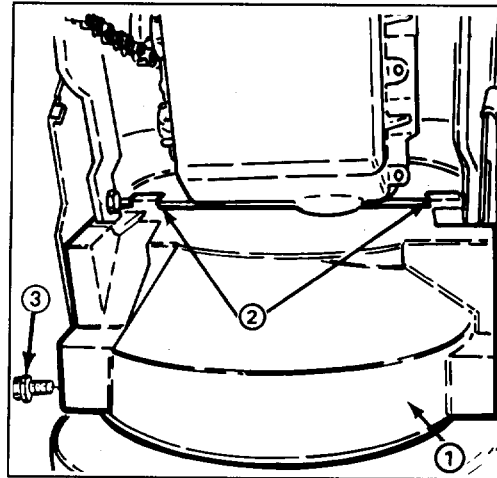

Figure 2
4. Secure auger housing to engine frame with (6) 5/16-18 x 5/8" lg. flange head capscrews.
7. Mount lower belt cover to underside of auger housing and engine frame with (2) 1/4-20 x 1/2" lg. flange head capscrews (Fig. 2). Make sure belt cover mounting tabs are positioned to rear of engine frame member.